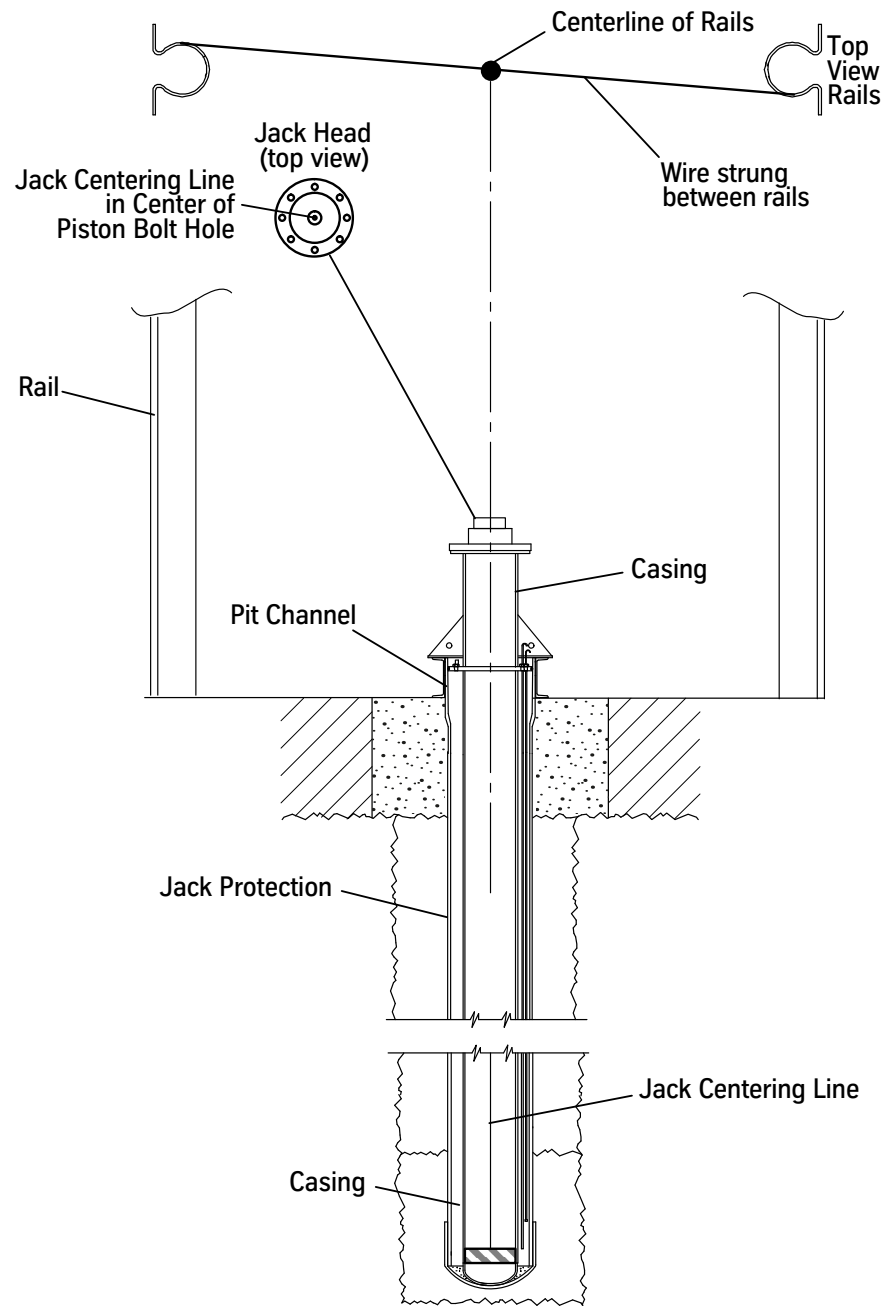

Figure 27 - Jack Alignment
3. Pull the centering line cable out $\frac{1}{8}$ ". See Figure 27.